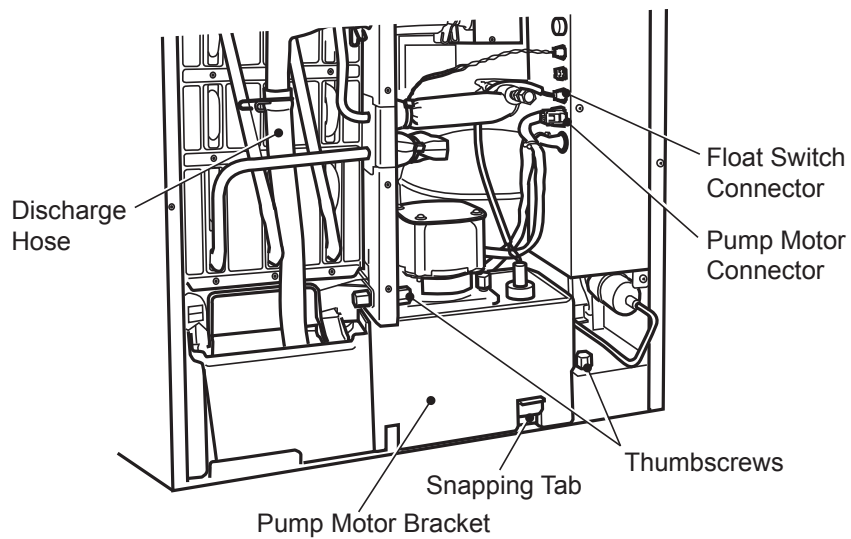

Fig. 8
- a. Loosen the two thumbscrews securing the pump motor bracket. See Fig. 8.
Be sure to let the Discharge Hose pass behind the copper tube and connect it securely in position. See Fig. 8. Otherwise, the Discharge Hose may be caught in the Front Insulation, leading to improper results.